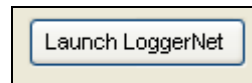

Figure 10.0.3
1. If **LoggerNet** is not currently running on your computer. Click on the Launch **LoggerNet** button to start the program (Figure 10.0.3)